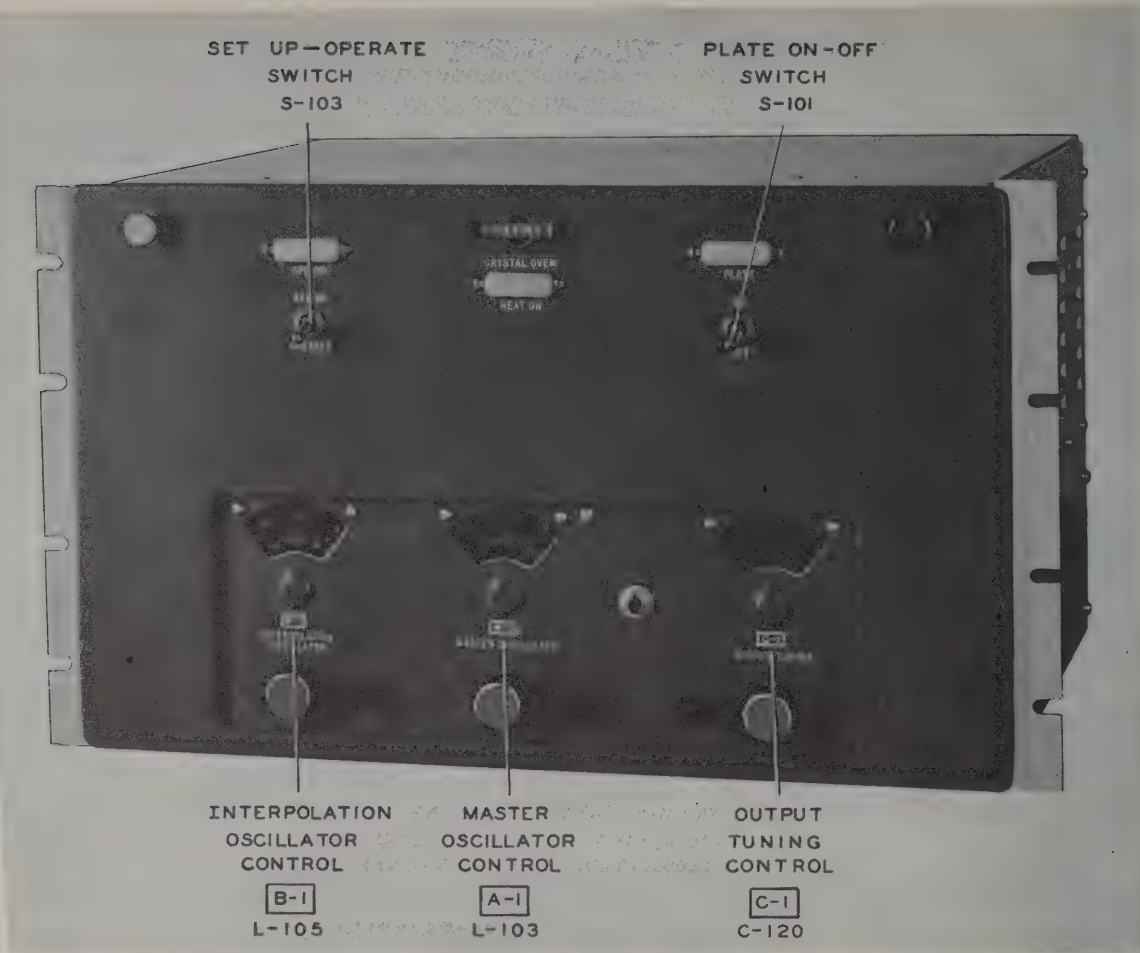

Figure 26. R-F Oscillator O-91/FRT-5 Controls.
*b. R-F Oscillator O-91/FRT-5 (fig. 26).*
*b. R-F Oscillator O-91/FRT-5 (fig. 26). (contd)*